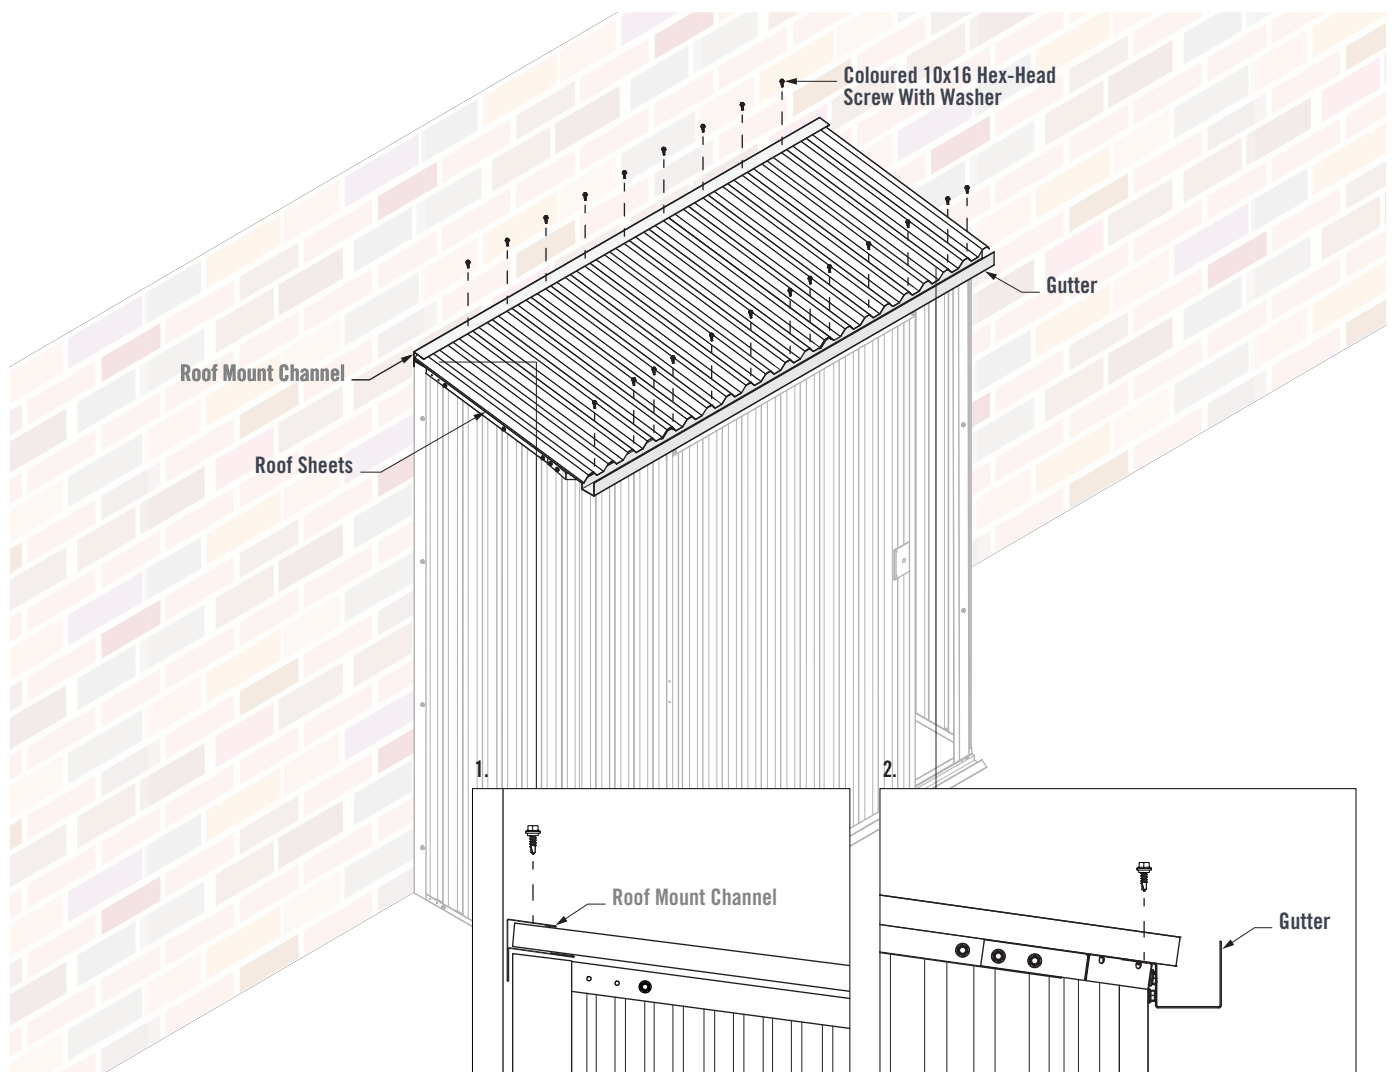

FIGURE 8.2
1. Fit the Roof Sheets into the Roof Mount Channel. Fasten nine Coloured 10x16 Hex-Head Screws with Neo Washers through the Roof Mount Channel and into every second Roof Sheet crest (Figure 8.2).
2. Fasten thirteen Coloured 10x16 Hex-Head Screws with Neo Washers through every second Roof Sheet pan and into the Gutter. Ensure a Screw is fastened in both pans either side of the sheet laps (Figure 8.2).